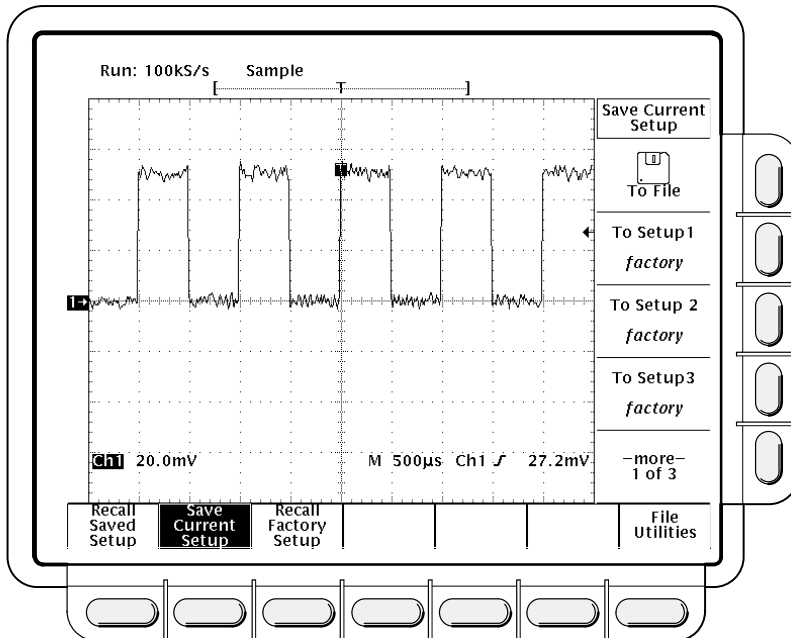

Figure 3-68: Save/Recall Setup Menu
2. To store to a setup internally, choose one of the ten internal storage locations from the side menu **To Setup 1**, **To Setup 2**, ... (see Figure 3-68). Now the current setup is stored in that location.